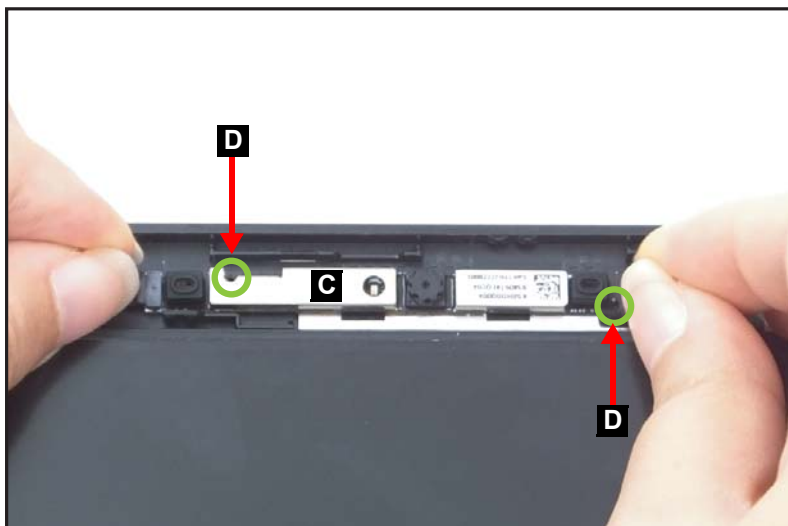

Figure 1-73. Replacing the Camera Module
2. Align and install the camera module (C) to its compartment on the LCD cover (Figure 1-73).
When installing the camera module, make sure it is properly aligned with the guide pins (D) and placed onto its designated location as shown in Figure 1-73.